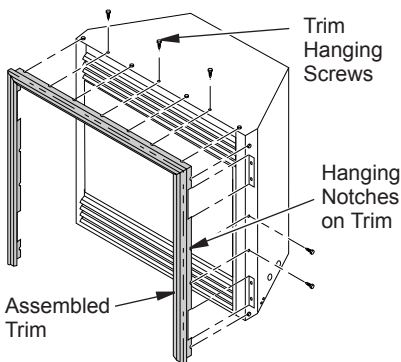

Figure 7 - Attaching Perimeter Trim to Fireplace
8. Tighten trim hanging screws (#10 x 6.25 shoulder) into holes in cabinets. Place the assembled trim onto fireplace cabinet. Align hanging notches on trim with hanging screws on side of fireplace (see Figure 7). Push trim firmly into place, sliding hanging notches over hanging screws.
10. Install trim after final finishing and/or painting of wall (see Figure 7, page 9).